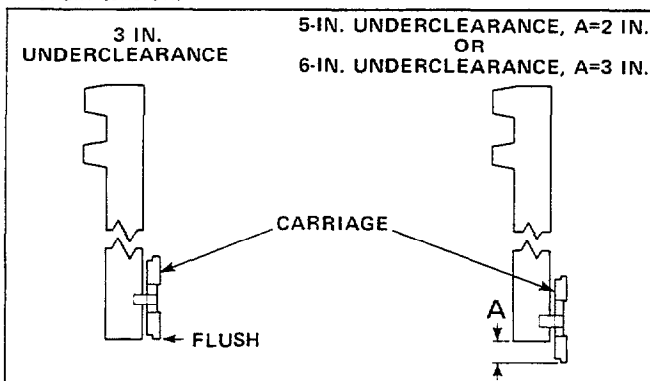

Figure 25. Correct Carriage Positions when Mast is Fully Lowered
The carriage hoist chains should be adjusted so that when the unloaded mast is fully lowered, the carriage is positioned as shown in Figure 25.
2. Adjust one carriage chain anchor nut to achieve the correct carriage position when fully lowered as shown in Figure 25.